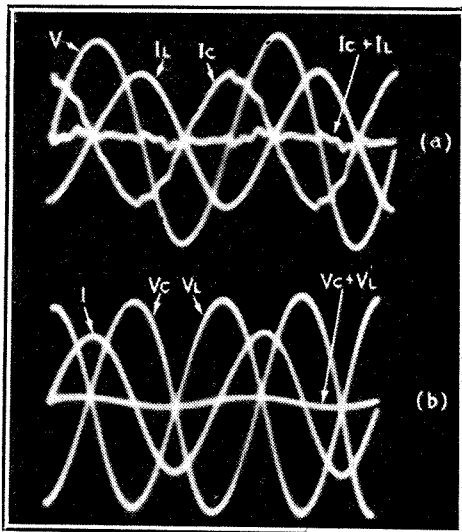

Fig. 4.—Oscillograms of voltage-current relationships in more complex circuits.
It is quite a simple matter to examine this possibility experimentally. The circuit diagram is shown in Fig. 3 (d), and all we require of the two components is that they shall each pass the same current when separately connected across the supply. The oscillogram of the various currents is given in Fig. 4 (a). The condenser current (IC) is substantially the same as the choke current (IL), but always in the reverse direction. The sum of the two (IC and IL) would be zero were it not for the irrepressible harmonic, which we are justified in ignoring.
The voltage oscillograms are illustrated in Fig. 4 (b). The large waves represent the voltages across the choke and condenser, while the almost straight line indicates the supply voltage. Being the sum of two equal and opposite voltages, the latter is practically zero. The analogy between the parallel and series circuits is very apparent. In the former the two *currents* add up to zero, while in the latter the two *voltages* combine to give the same answer.